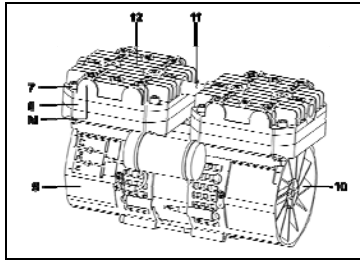
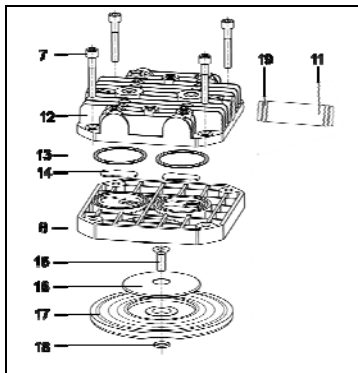

Fig. 6: Pump N 936.3
Fig. 7: Pump head (exploded drawing, symbolic)
** according to Fig. 7
Mark the position of head plate (Fig. 6/12), intermediate plate (8) and pump housing (9) relative to each other by a drawing line (M) with a felt-tip pen. This helps avoid incorrect assembly later.
1. Turn the fan (Fig. 6/10) to bring one diaphragm (Fig. 7/17) to top dead centre.
2. Unscrew the screw for retainer plate (Fig. 7/15), and take off the retainer plate (16).
3. Remove diaphragm (Fig. 7/17) from reception.
5. Turn the fan (Fig. 6/10) until the connecting rod (connecting part between motor shaft and diaphragm) is at top dead centre.
6. Replace the O-ring below the retainer plate (Fig. 7/18) with a new one.
7. Lay in the new diaphragm (Fig. 7/17); then apply the retainer plate (16) and tighten it to the connecting rod with the screw for retainer plate (15) (tightening torque: 9 Nm).
- i** The self-locking screw for retainer plate (15) can only be used once.
1. Pull the connecting tube(s) (Fig. 7/11) out of one of the two head plates (12).
2. Separate the head plate (Fig. 7/12) from the intermediate plate (8).
3. Remove the valves (Fig. 7/14) and O-rings (13) from the intermediate plate (8).
Lay the new valves (Fig. 7/14) and O-rings (13) in the recesses in the intermediate plate (8).
6. Place the head plate (Fig. 7/12) on the intermediate plate (8), in the position indicated by the marking (Fig. 6/M).
7. Check that the head plate (Fig. 7/12) is centered by moving it gently sideways.
1. Push the connecting tube(s) (Fig. 7/11) into the hole in the head plate (12).
- i** Ensure that the O-rings (19) lie in the grooves of the connecting tube(s). Note: O-rings only present on straight-threaded connections, not NPT.
2. Place the two pump heads that are joined by the connecting tube(s) (Fig. 7/11) on the housing according to the markings (Fig. 6/M).
Gently tighten the screws (Fig. 7/7) , evenly and diagonally.
4. Turn the fan (Fig. 7/10) to check that the pump rotates freely.
5. Now tighten at both pump heads screws (Fig. 7/7) diagonally (tightening torque: 6 Nm).